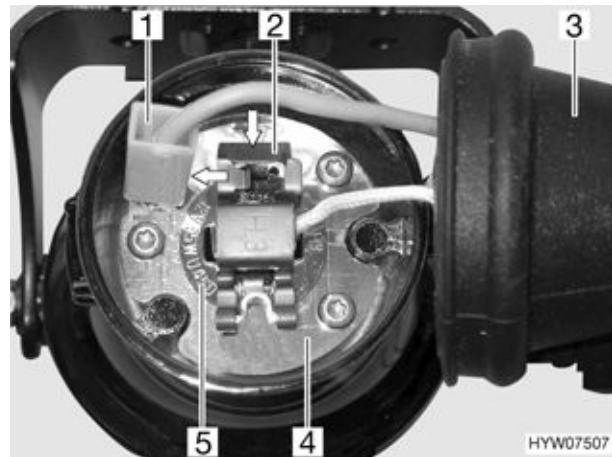

Fig. 173 Fog light
- Put your hand behind the fog light and remove rubber cap (Fig. 173,3) from lamp housing (Fig. 173,4).
- Remove negative cable (Fig. 173,1) from lamp housing.
- Press securing clips (Fig. 173,2) to remove and move them to the side.
- Remove bulb (Fig. 173,5) with cable from the lamp housing.